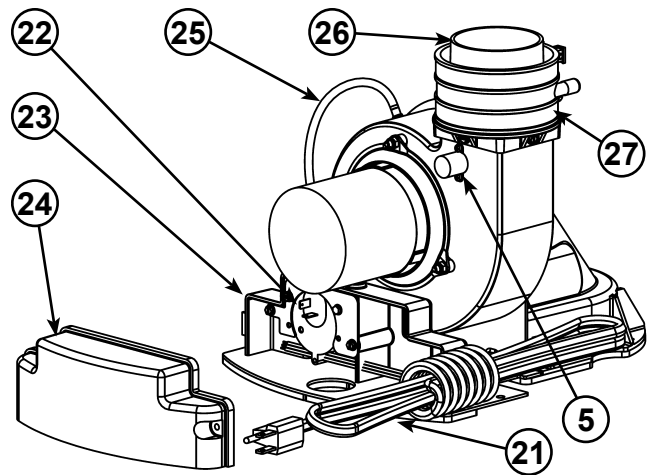

Figure 61.
5. Blower High Limit Switch (see Figure 61)
21. Blower with Power Cord (see also Figure 61)
22. Air Switch (inside box) (see Figure 61)
23. Junction Box (see Figure 61)
24. Junction Box Cover (see Figure 61)
25. Air Tubing (see Figure 61)
26. Rubber Coupling (see also Figure 61)
27. Gear Clamp (see also Figure 61)